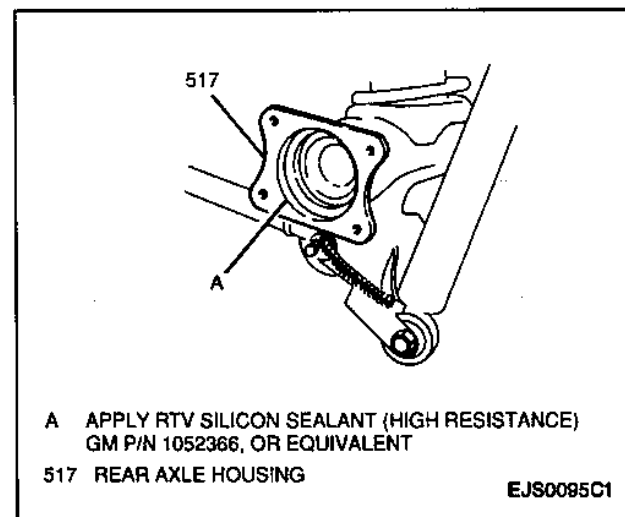

Figure 6—Sealant Application
1. Apply RTV silicone sealant (high resistance) GM P/N 1052366, or equivalent, to axle housing mating surface (Figure 6).